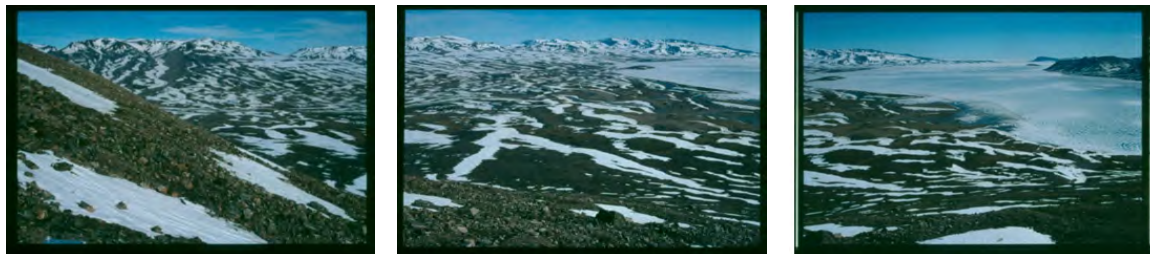

Figure 21: Monitoring photos. Three photos cover the central part of the valley and Young Sound.
1. Take three photos of the valley (see Fig. 21). Keep the mountains in the horizon in the absolute uppermost part of the photo.